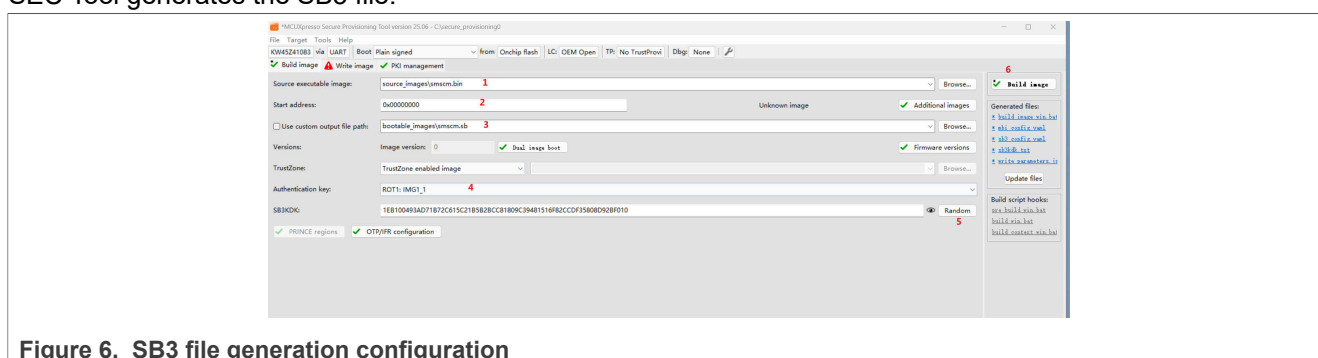

Figure 6. SB3 file generation configuration
- 5. SB3KDK can be generated and observed in Figure 6.